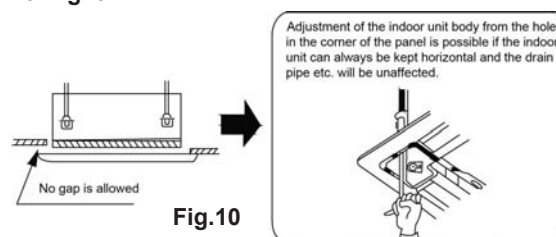

Fig.10
(8) If gap still exists between ceiling and decoration panel after tightening the screws, readjust the height of the indoor unit. Fig10.